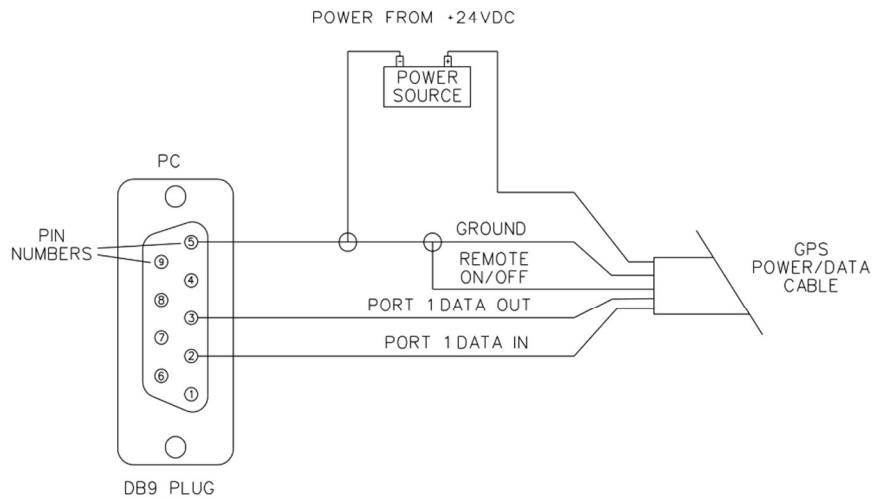

Figure 4
The standard 16-channel TS 2 detector card rack shall be 4-channel dominant with an additional four (4) emergency preemption channels; each channel shall be individually labeled with the channel number. Detector channels shall have a communication address in accordance with NEMA Standards Publication TS 2-2021, Section 5.3.4.2. See Figure 4 for installation location.
The 16-channel solid state Malfunction Management Unit 2 (MMU2) shall be located on the controller shelf and must meet the requirements of NEMA Standards Publication TS 2-2021, Section 4. See Figure 4 for installation location. The unit must be compatible with the communication requirements of the controller and capable of a remote data log upload via an Ethernet connection.
The Global Positioning System (*Product ID 55726*) and Interconnection Cable Assembly (*Product ID 55727*) shall be mounted to the outside top right back corner of the cabinet, see Figure 4, and must include, at a minimum, the following: